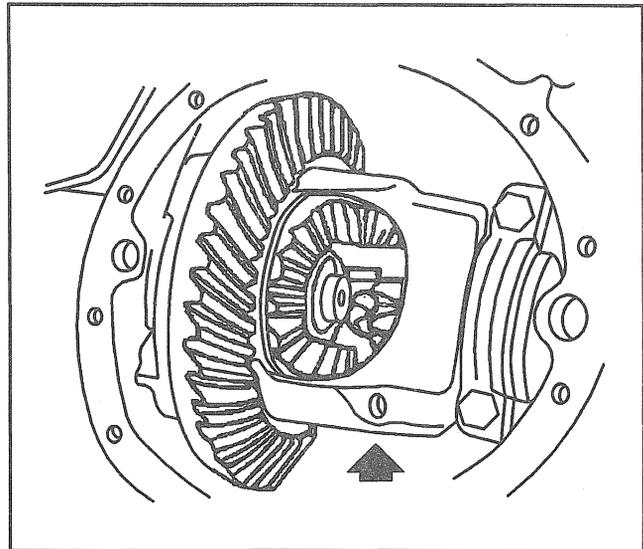
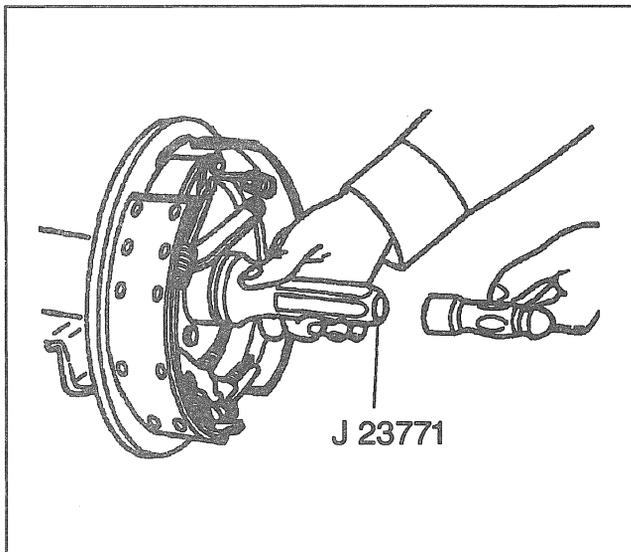

Figure 30—"C" Lock and Axle Shaft Seated In The Side Gear
Figure 29—Installing the Axle Seal
2. Oil seal using J 23771 until the oil seal is flush with the axle tube (Figure 29).
3. Axle shafts (33) into the axle housing (1).
4. "C" locks (34) on the axle shaft (33).
- Pull the axle shaft (33) outward so the "C" lock (34) seats in the counterbore of the axle side gear (Figure 30).
5. Pinion shaft (17) through the case (24) and differential gears (22).
6. Pinion shaft lock bolt (15).